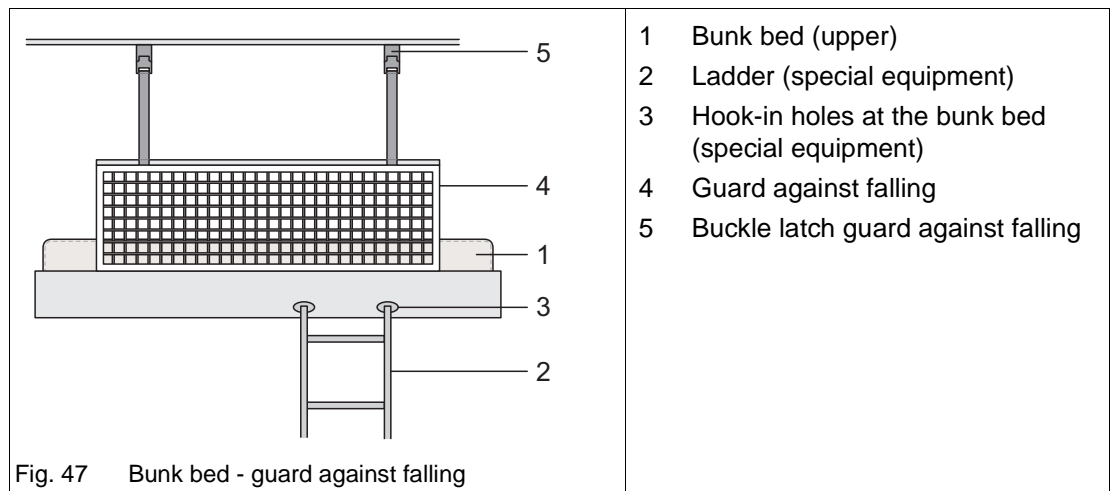

Fig. 47 Bunk bed - guard against falling
- ➔ Use the ladder (Fig. 47/2) to climb into the upper bunk bed (Fig. 47/1).
- ➔ Hang the ladder (Fig. 47/2) into the hook-in holes provided (Fig. 47/3).
- ➔ Close the guard against falling (Fig. 47/4) with the buckle latches (Fig. 47/5) in the vehicle ceiling when you are in the bed (Fig. 47/1).